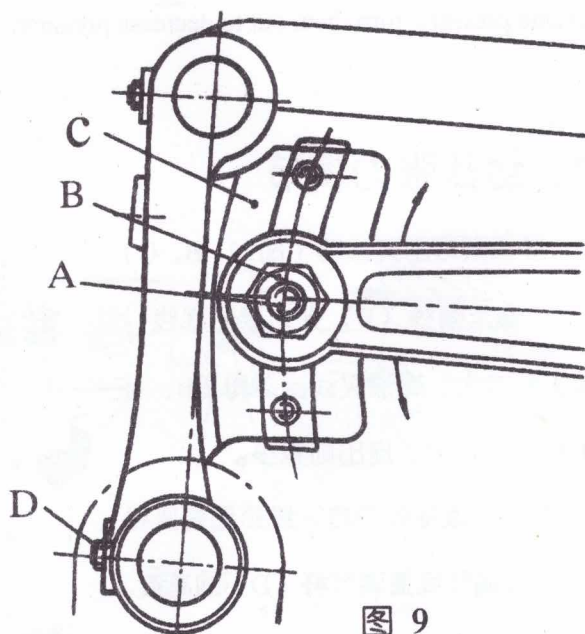

图 9
时,拧松牙架座C(图9)上的两只螺钉D,左
If feed dog is not in the centre in the throat plate slots. Loosen screws D in the feed rocker C(Fig.9), move the feed rocker right of left as required. Then retighten screws D.
针距长短的调节,是通过牙架座(图9,C)扇形槽中的针距调节螺钉(A)的上下移动来实现的。下降螺钉(A)使针距加大,升高则缩短针距。调节时拧松螺母(B),上下移动螺钉(A)至需要的针距后再固紧螺母(B)。
The length of the stitch can be adjusted by raising of lowering the stud (A) in the segment slot of the feed locker (C. Fig.9). Lowering the stud will loosen the stitch. After loosening nut (B), stud (A) can be moved accordingly. When the desired stitch length is obtained, retighten nut (B).